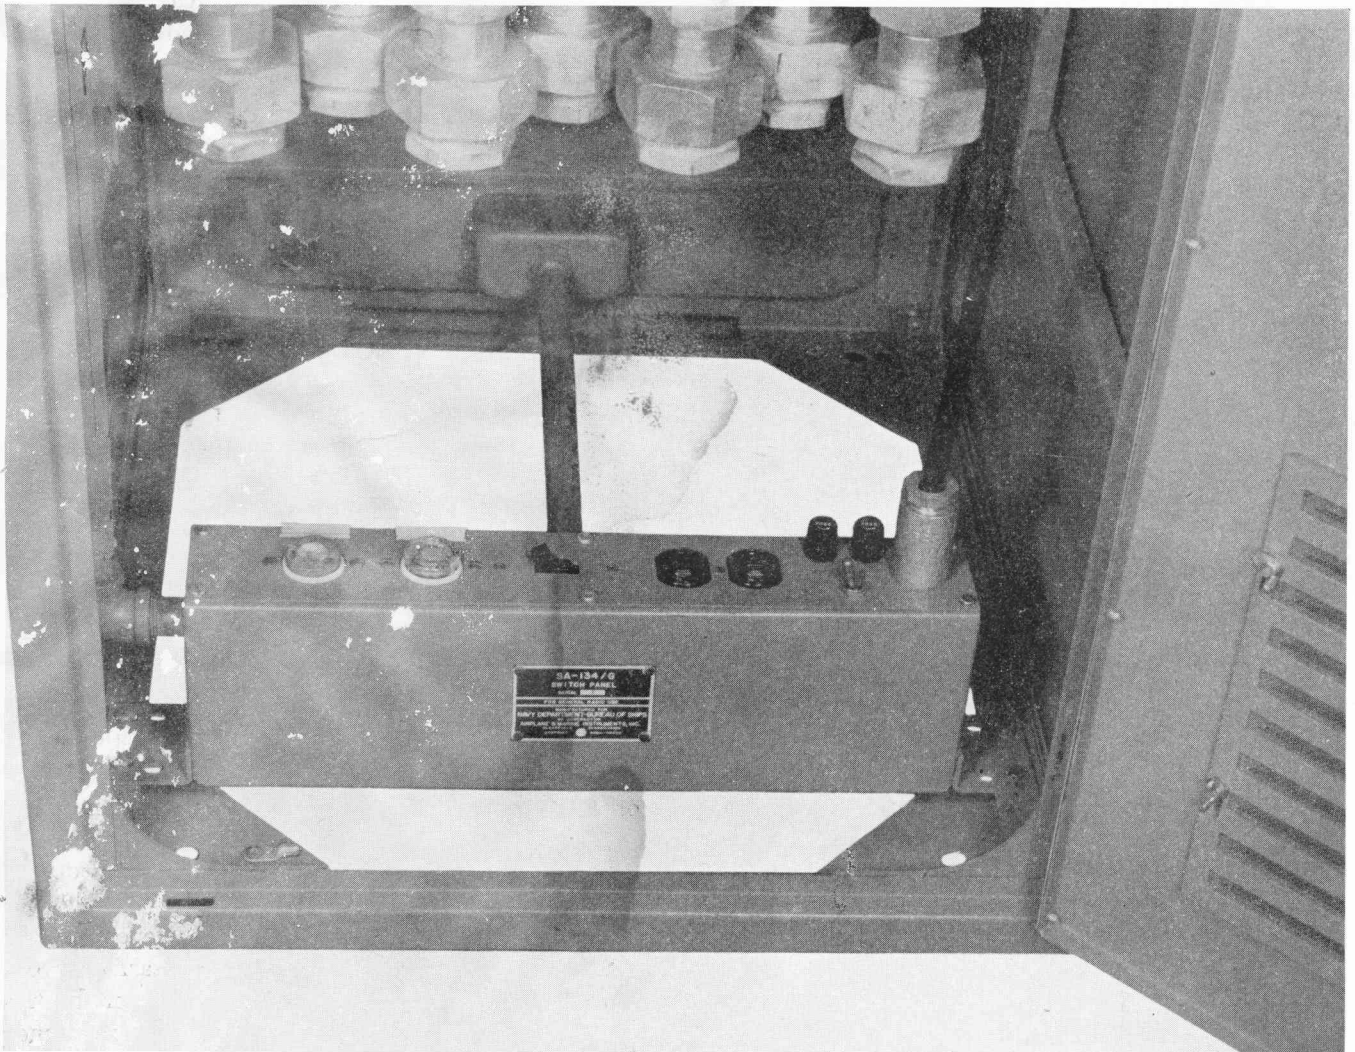

Figure 1-3. Switch Panel AN Type SA-134/G, Installed in Cabinet AN Type CY-597/G
(2) SWITCH PANEL AN TYPE SA-134/G (*Figure 1-3*).—Switch Panel AN Type SA-134/G controls the primary power input to each cabinet and is mounted in the bottom rear of the cabinet. The Switch Panel is wired and fused for 115 volts AC 15 amperes. If desired, it may be connected to 230 volts AC, but the 15 amp fuses must be replaced with 5 amp fuses. A trouble light is included which is fused separately with two one ampere cartridge fuses. It is